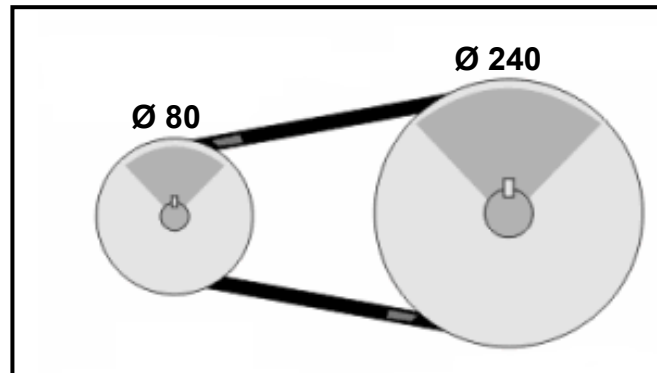

FIGURE 1.5
- 1.16 What is the velocity ratio of the pulley system in FIGURE 1.5 below if the smaller pulley is the driver pulley?